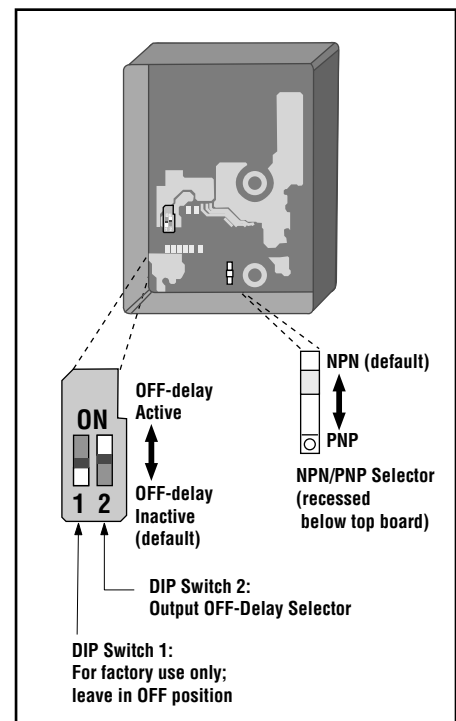

Figure 5. Selector switches: Output OFF-Delay and NPN/PNP output select
Located within the QL55 Sensor, two selector switches may be used to enable an output OFF-delay option and for setting the discrete output to NPN or PNP (see Figure 5). The QL55 is available with one of three operating ranges, to a maximum of 75 mm (2.95"), depending on the model.
3. Slide DIP switch 2 (shown in Figure 5) to the ON position.
2. Access the red sliding NPN/PNP selector switch by removing the four cover screws and the sensor side cover. The switch is located deep within the sensor housing; do not confuse it with the bank of two DIP switches. The NPN/PNP selector switch is visible below the circuit board, next to the exposed mounting screw location (see Figure 5).
Adjustments	2 push buttons (MARK and BKGD) determine switching threshold and Light/Dark operate (see page 3) 2 selector switches (see Figure 5) • 20 ms Output OFF-delay • NPN/PNP output